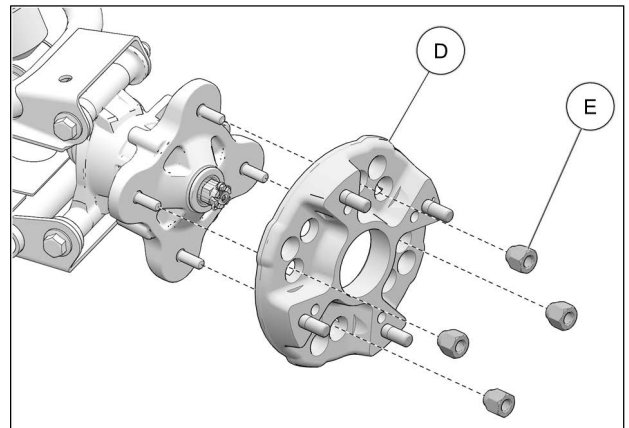

Fig. 8
- Install wheel spacers (D) on rear hubs. Use M12x1.25 wheel nuts (E) supplied in the installation kit. See Fig. 8.